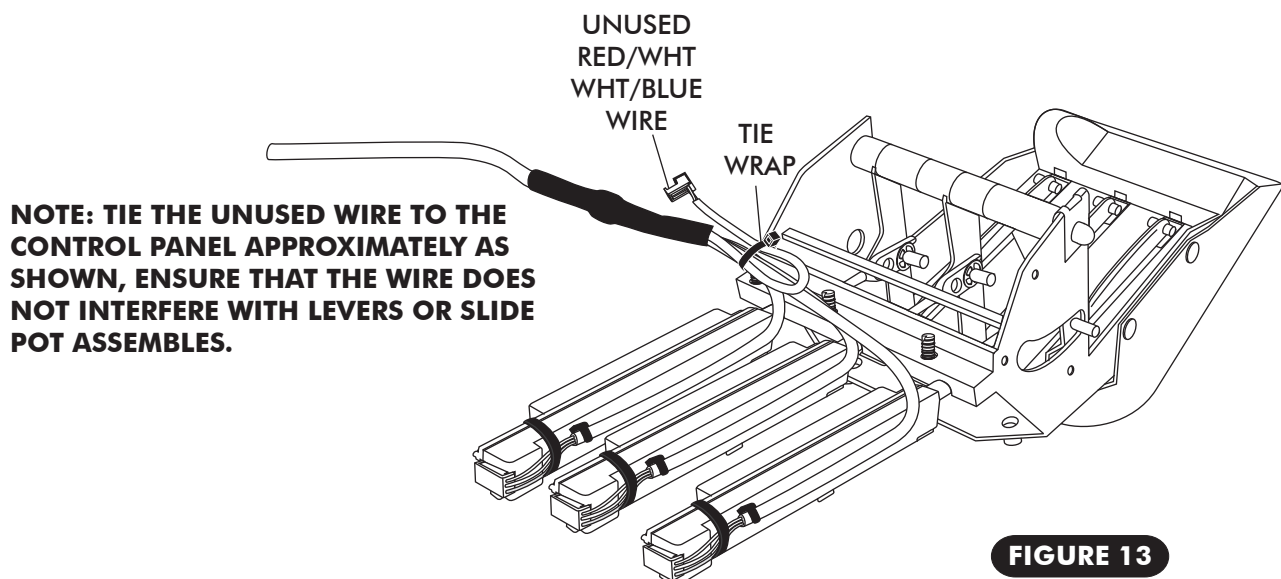

FIGURE 13
- USING THE SUPPLIED TIE WRAPS, TIE THE WIRES TO THE CONTROL PANEL AS SHOWN IN FIGURE 13, BELOW. CONFIRM THAT WIRES ARE SECURED AND DO NOT INTERFERE WITH LEVER OPERATION OR CABLE CONVERTER ASSEMBLY.